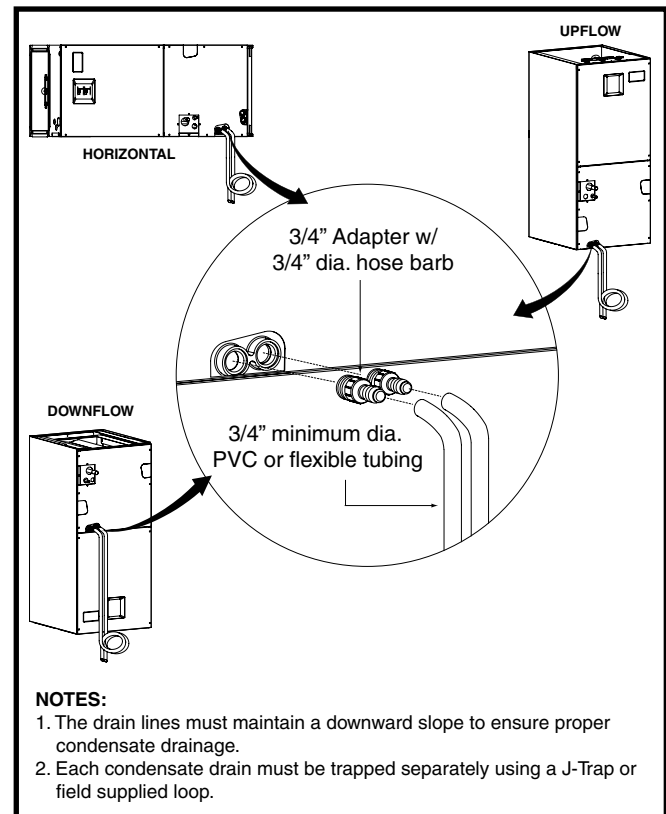

Figure 8. Condensate Drainage Example
- Always refer to the installation instructions supplied with the outdoor unit for piping requirements. The suction and liquid lines must be sized in accordance with the condensing unit specifications. See Figure 8 \(page 10\) for liquid and suction line locations.
- The drain pan that is supplied with this air handler contains a primary and secondary drain fitting. The condensate is drained from the unit through two 3/4" female pipe fittings located on the front side of the unit as shown in Figure 8.